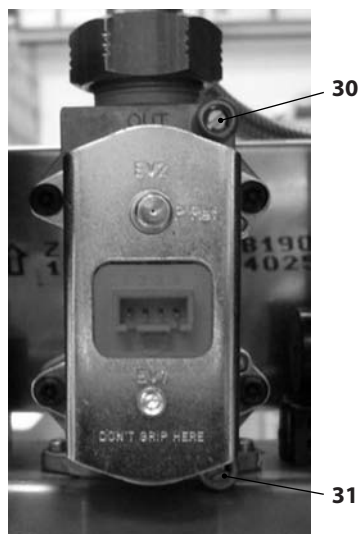

Figure 7.1
With the boiler off, check the supply pressure using the tapping point 31 in Figure 7.1 and compare the read value with the one shown in the Gas supply pressure table in the section "Technical data M290.24CM/..." on page 22, "Technical data M290.28CM/..." on page 25 and "Technical data M290.32CM/..." on page 28.
- Properly reclose the tapping point 31 in Figure 7.1.
- Open the tapping point 30 in Figure 7.1 and connect a pressure gauge.